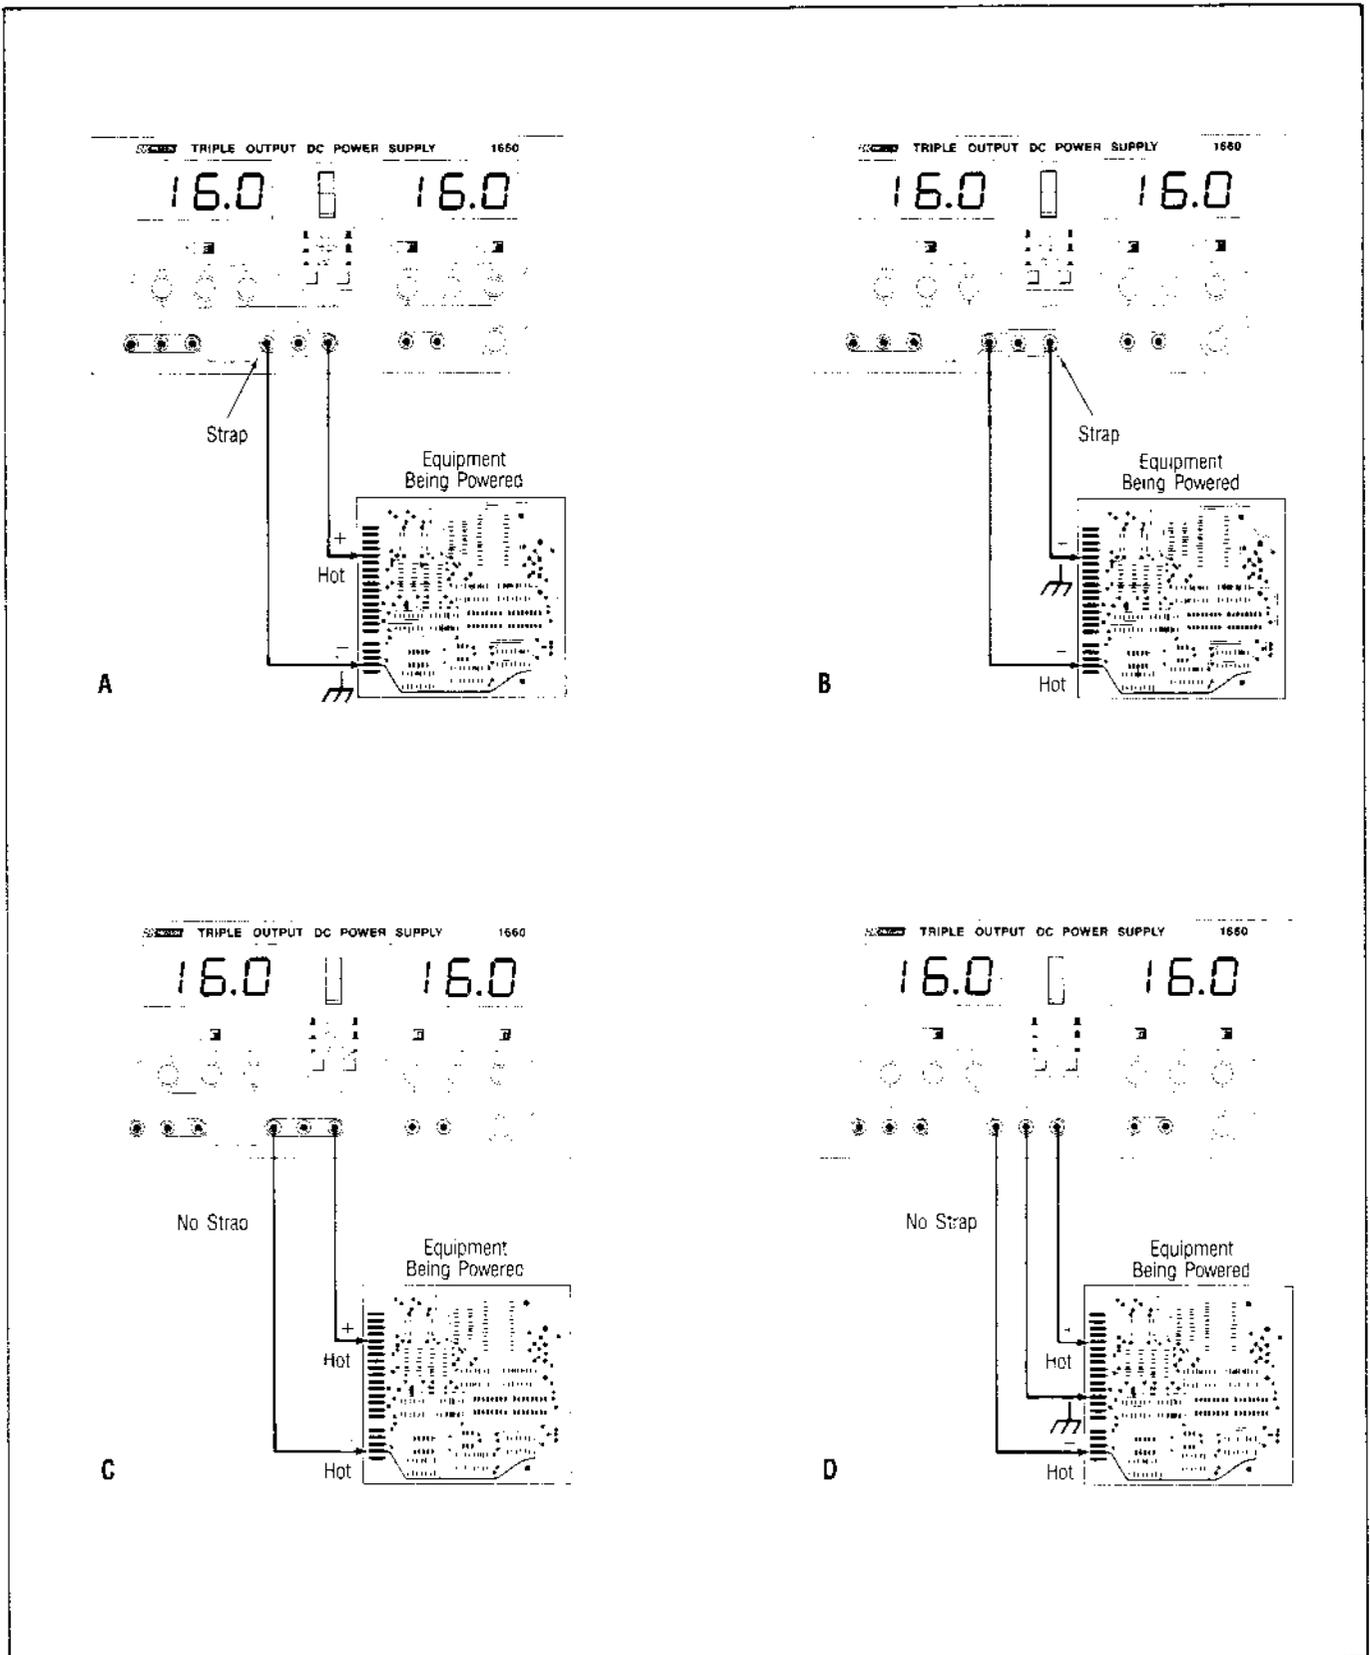

Fig. 9. Parallel Tracking Operation Grounding Possibilities.
8. Fig. 9 illustrates the grounding possibilities when used in the **TRACKING PARALLEL** mode.